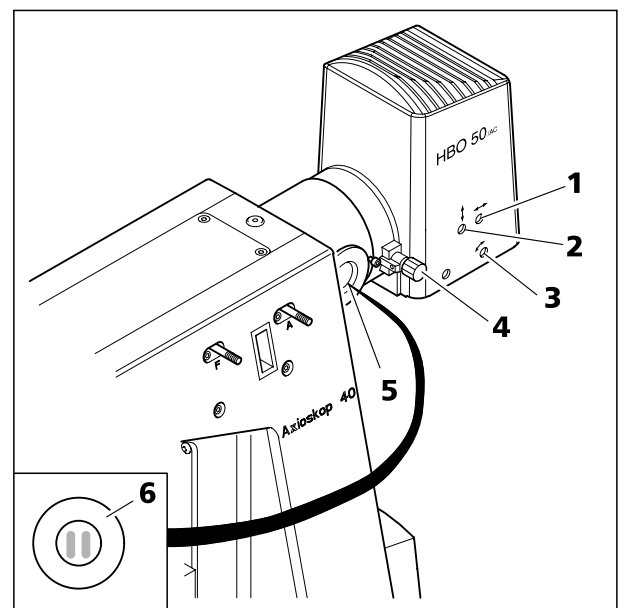

Fig. 2-22 Adjusting HBO 50
- Use the adjusting screw (2-22/1) to set the burner in an axial direction to the reflection, so that both arcs appear the same size in the viewing window of the adjustment guide (refer to Fig. 2-22/6).